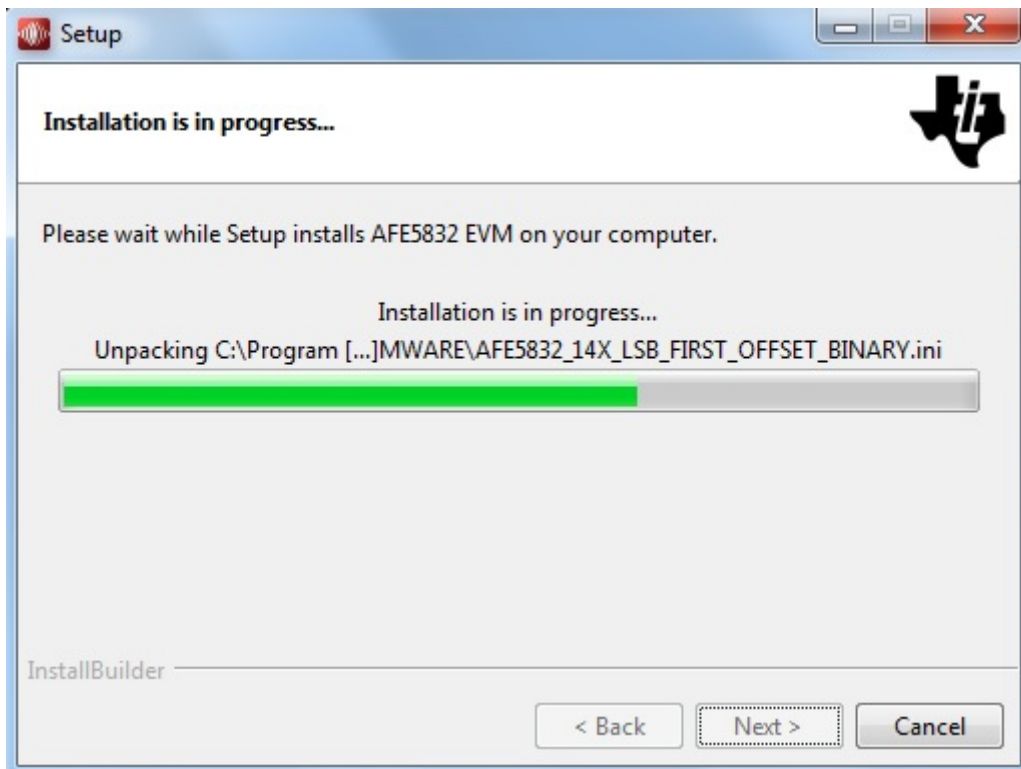

Figure 38. AFE5832 GUI Install (Installation Progress)
- The window shown in Figure 38 appears showing that the installation is in progress.